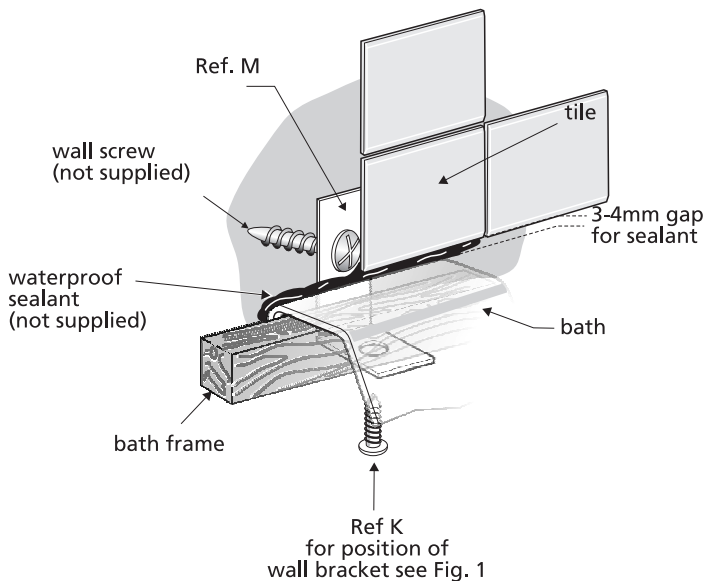

Fig. 6
8. Fit the two wall fixing brackets to bath frame as indicated in Fig. 6 and Fig. 1. Pilot drill holes (Ø3mm) in frame before fixing brackets.
14. Tile down to the height of the bath rim leaving a 3-4mm gap for waterproof sealant, see Fig. 6. An extruded sealing strip can be used for the bath to wall joint as an alternative to waterproof sealant. Protect bath during tiling.